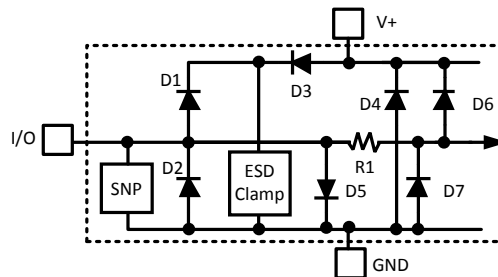

Figure 1. ESD Protection Input Structure
- (1) Absolute Maximum Ratings indicate limits beyond which damage to the device may occur. DC and AC electrical specifications do not apply when operating the device beyond its rated operating conditions.
- (2) Stresses beyond those listed under absolute maximum ratings may cause permanent damage to the device. These are stress ratings only, and functional operation of the device at these or any other conditions beyond those indicated under recommended operating conditions is not implied. Exposure to absolute-maximum-rated conditions for extended periods may affect device reliability.
- (3) When the input voltage (V_I) at any pin exceeds the power supplies (V_I < GND or V_I > V_{DD}), the current at that pin should be limited to 5 mA. Parasitic components and or ESD protection circuitry are shown in Table 1 and Figure 1 for the LM89's pins. The nominal breakdown voltage of D3 is 6.5 V. Care should be taken not to forward bias the parasitic diode, D1, present on pins: D+, D-. Forward biasing the parasitic diode by more than 50 mV may corrupt a temperature measurements.
- (4) Visit www.ti.com/packaging for other recommendations and methods of soldering surface mount devices.